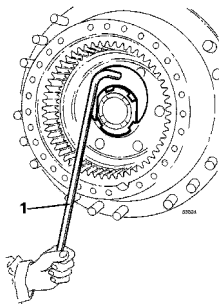

Figure 3
11. Remove the hub nut, see Figure 3.